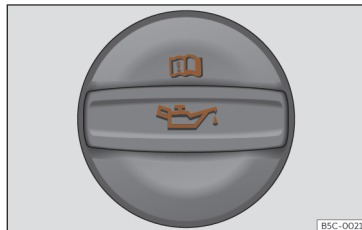

Fig. 232 Oil filler cap cover in the engine compartment.
- Locate the engine oil filler cap. It can be recognized by the symbol on the cover >>> **Fig. 232.**
- Unscrew cap from the oil filler mouth >>> **Fig. 232.**